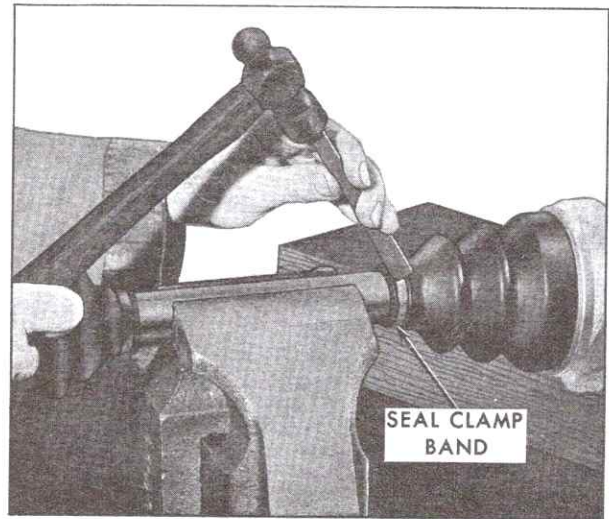

Fig. 3-49 Removing Seal Bands
2. Remove inner and outer seal band clamps as shown in Fig. 3-49.
2. Remove small seal band clamp as shown in Fig. 3-49.